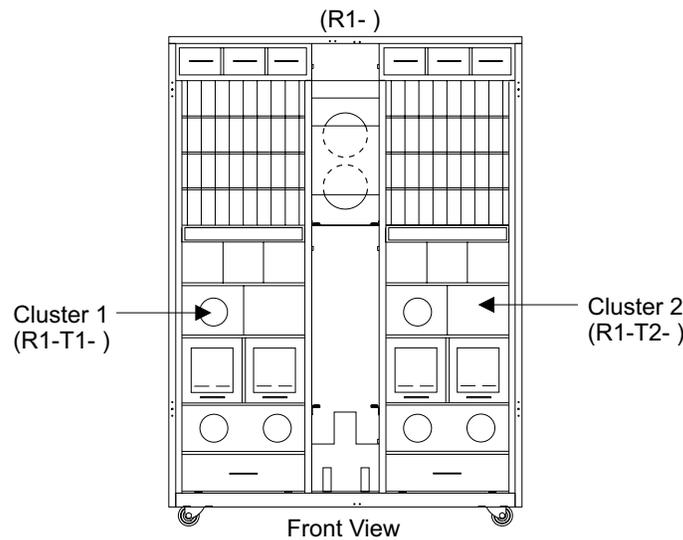

Figure 158. 2105 Model F10/F20 Cluster Bay Locations (S008091m)
1. Open the front cover of the 2105 Model F10/F20 rack and locate the cluster bay with the cluster bay cable you are replacing, see Figure 158 on page 151.